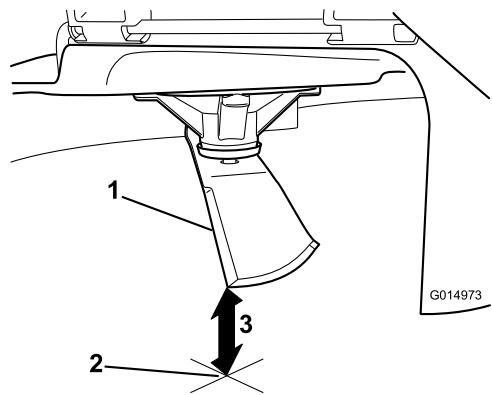

Figure 54
- Measure from the tip of the blade to the flat surface (Figure 54).